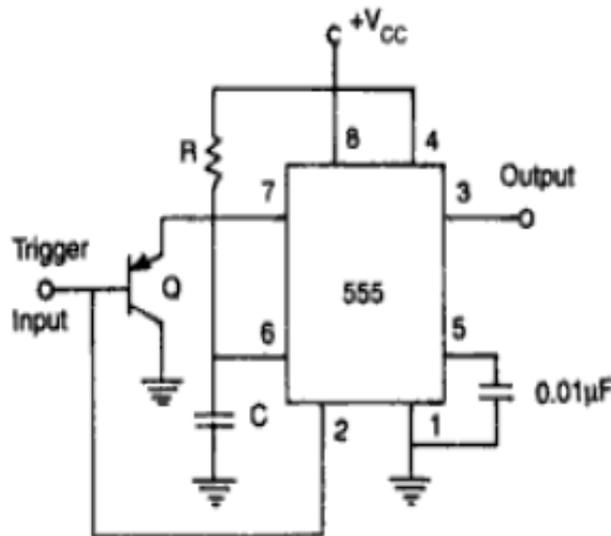

Figure 8: A missing pulse detector monostable circuit
- Missing pulse detector circuit using 555 timer is shown in Fig. 8. Whenever, input trigger is low, the emitter diode of the transistor Q is forward biased.